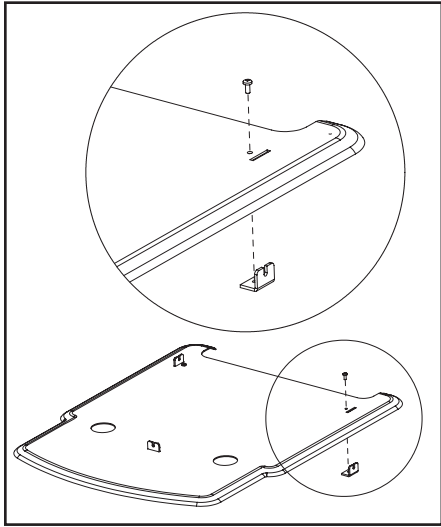

Figure 2: Installing tabs into hearth pad.
1. Slide a hearth pad tab through each of the three (3) slots on the hearth pad so the slotted end is up and secure in place with a T-20 screw through the pad into the tab (refer to Figure 2).